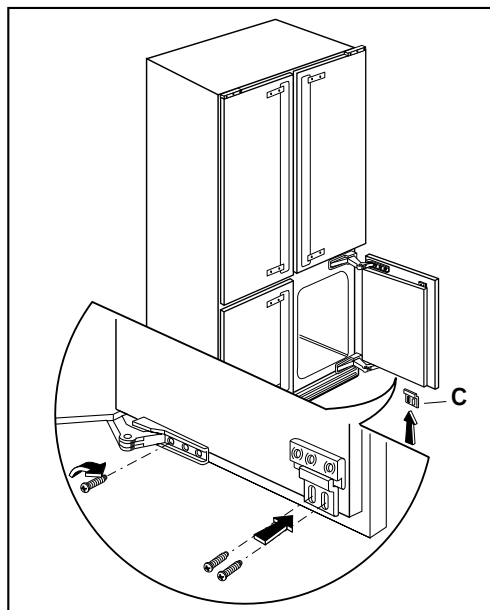

Fig. 7
- Fit bottom guide block C using two screws and fix the hinge with a screw in the vertical slot (Fig. 7).